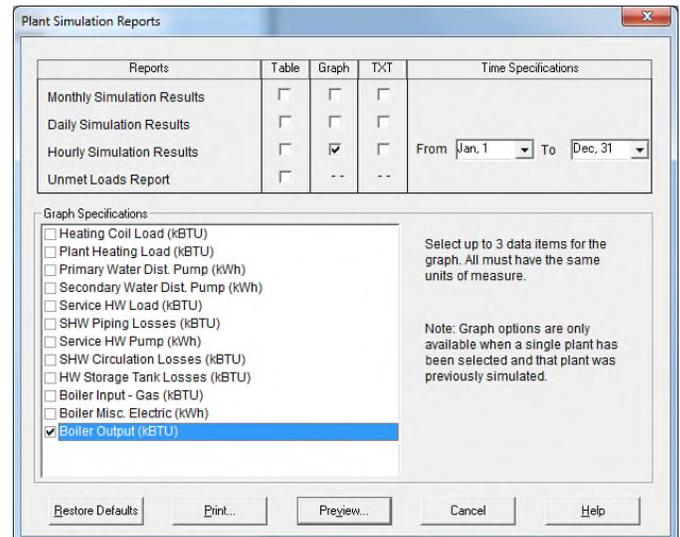

Figure 16.
- d. For the hot water plant request a graph of hourly simulation results for January 1 thru December 31. choose the “Boiler Output” item as the data to graphed (Figure 16). This will plot the total hourly heating load imposed on the plant, including space heating and SHW loads.